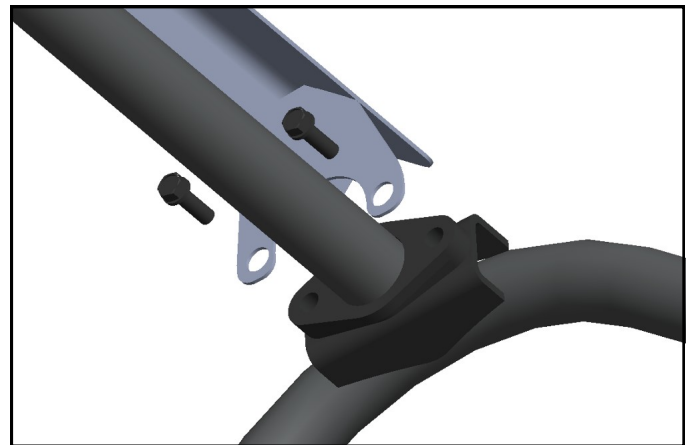

Fig. 2 (install rear roof support)
2. Per fig. 2, remove and save the four bolts and washers holding the rear cross member. Align the rear roof support as shown in fig. 2 with the rear curtain snaps along the back and re-install the bolts. Start thread engagement by hand to avoid cross threading the weldnuts. Tighten the bolts making sure that the rear roof support is pushed down and forward. Torque the four bolts to 48-55 N-m, 36-41 ft-lbs, or 4.9 to 5.7 kgf-m.